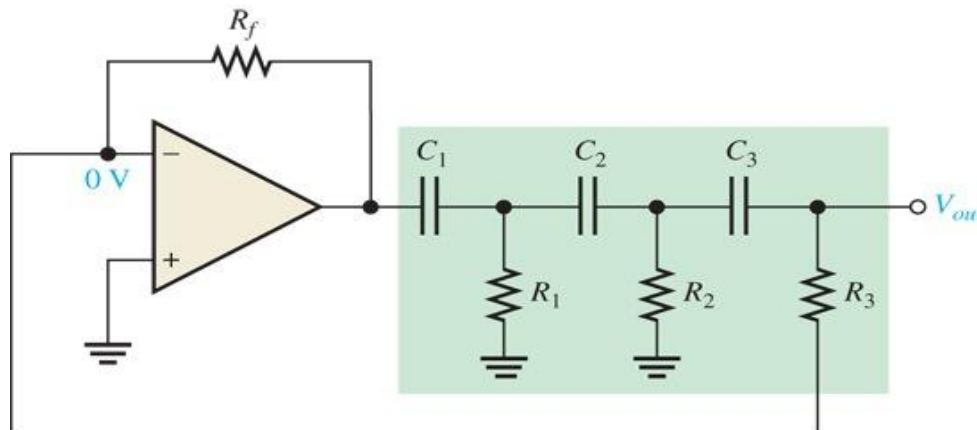

Figure 12 Phase-shift oscillator.
- Figure 12 shows a sinusoidal feedback oscillator called **the phase-shift oscillator**.